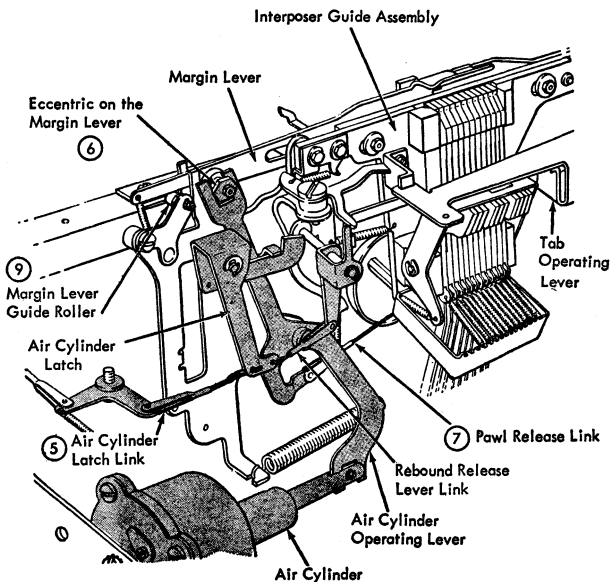

Figure 3. Release and Interlock Mechanism
1. The rebound release lever strikes the rebound check pawl and prevents it from engaging the rebound rack when the clutch is engaged (Figure 3).